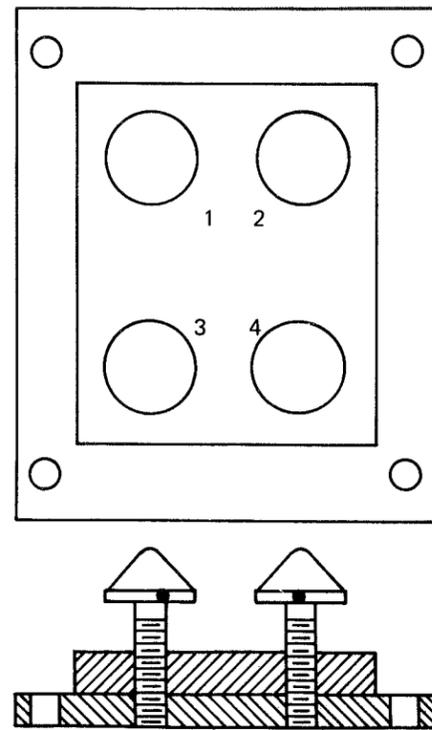

Figure 2-9. Schematic of Cone Type V-Block
**2-36. Cone-Type V-Blocks.** A cone-type V-block consists of two or four cones on elevating screws. The cones are separately adjustable in height, and can be locked in position by clamps. The telescope cylinder is held on the cones by springs. The two-screw type V-block can be used with a cup mount, in place of a bracket, to aim the telescope. The four-screw type V-block provides complete control of the telescope. Aiming of the telescope is accomplished by adjusting the height of the cones, as illustrated in Figures 2-9 and 2-10, and detailed below. In Figure 2-9, it is assumed that screws 1 and 2 are the forward screws. The numbers in the table below refer to the screws turned for the corresponding operation. All screws are turned equal amounts for each operation. The adjusting screw clamps should be snugged up to the point where there is a slight drag on the adjusting screws as they are turned. This will minimize any motion when the clamps are fully tightened after the adjustments have been completed.